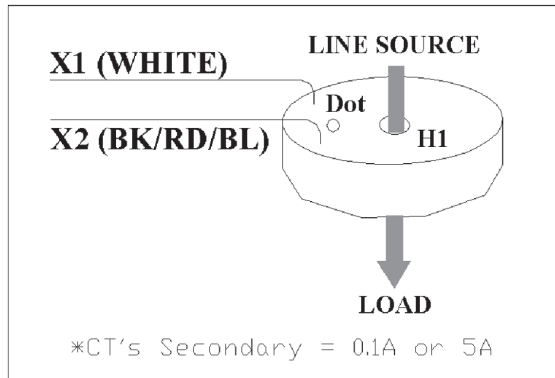

Figure 2-1. Correct CT orientation: H1, dot, or white side facing the line source.
3. Locate the branch circuit that supplies current from the distribution panel to the metered load. Disconnect these wires one (or two) at a time and properly run each wire (or pair of wires) through a CT as shown in Figure 2-1. The colors of the CT leads must correspond to the color of the tape on the phase feeder wires that supply this load.